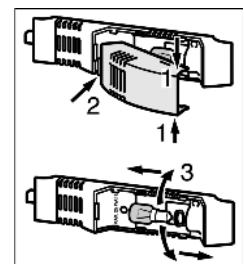

Fig. 31
- ▶ Take hold of the lamp cover at the top and bottom Fig. 31 (1).
- ▶ Disengage the lamp cover at the back and detach it Fig. 31 (2).
- ▶ Replace the bulb Fig. 31 (3).